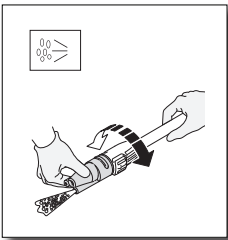

Fig. 21
- Soap Setting: (Fig. 21) Use this setting when using detergent to help clean the hard to clean surfaces and additional chemical is needed to break up the dirt.